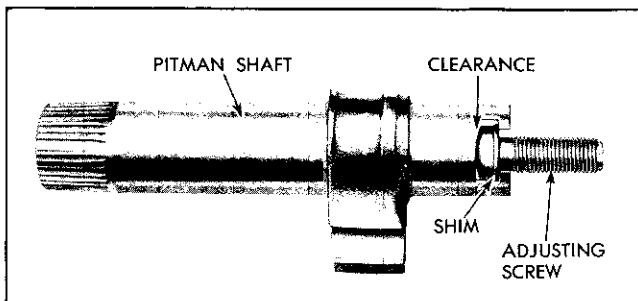

Fig. 9-41 Pitman Shaft and Adjusting Screw
4. Remove adjusting screw from slot in end of pitman shaft. Make sure shim found on adjusting screw remains with screw (Fig. 9-41).
6. Install pitman shaft adjusting screw and selective shim in pitman shaft (Fig. 9-41).